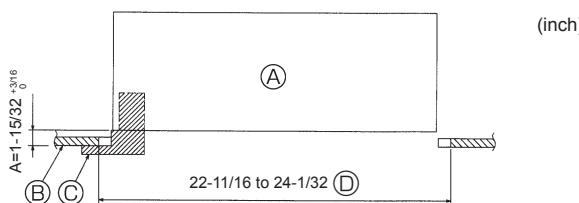
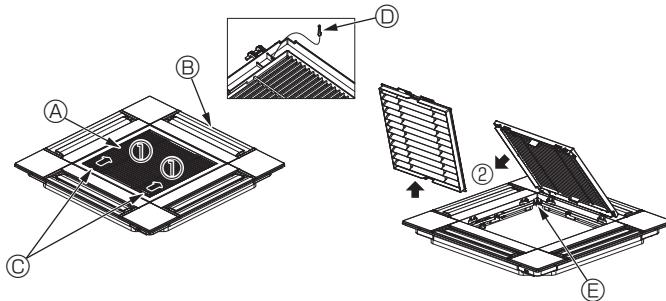

Fig. 10-2
Fig. 10-3
10.2. Preparing to attach the grille (Fig. 10-2)
- ① Main unit
② Ceiling
③ Gauge (Accessory)
④ Ceiling opening dimensions
10.2.1. Removing the intake grille (Fig. 10-3)
- Slide the levers in the direction indicated by the arrow ① to open the intake grille.
- With the intake grille in the "open" position, remove the hinge of the intake grille from the grille as indicated by the arrow ②.
- ① Intake grille
② Grille
③ Intake grille levers
④ Grille hook
⑤ Hole for the grille's hook